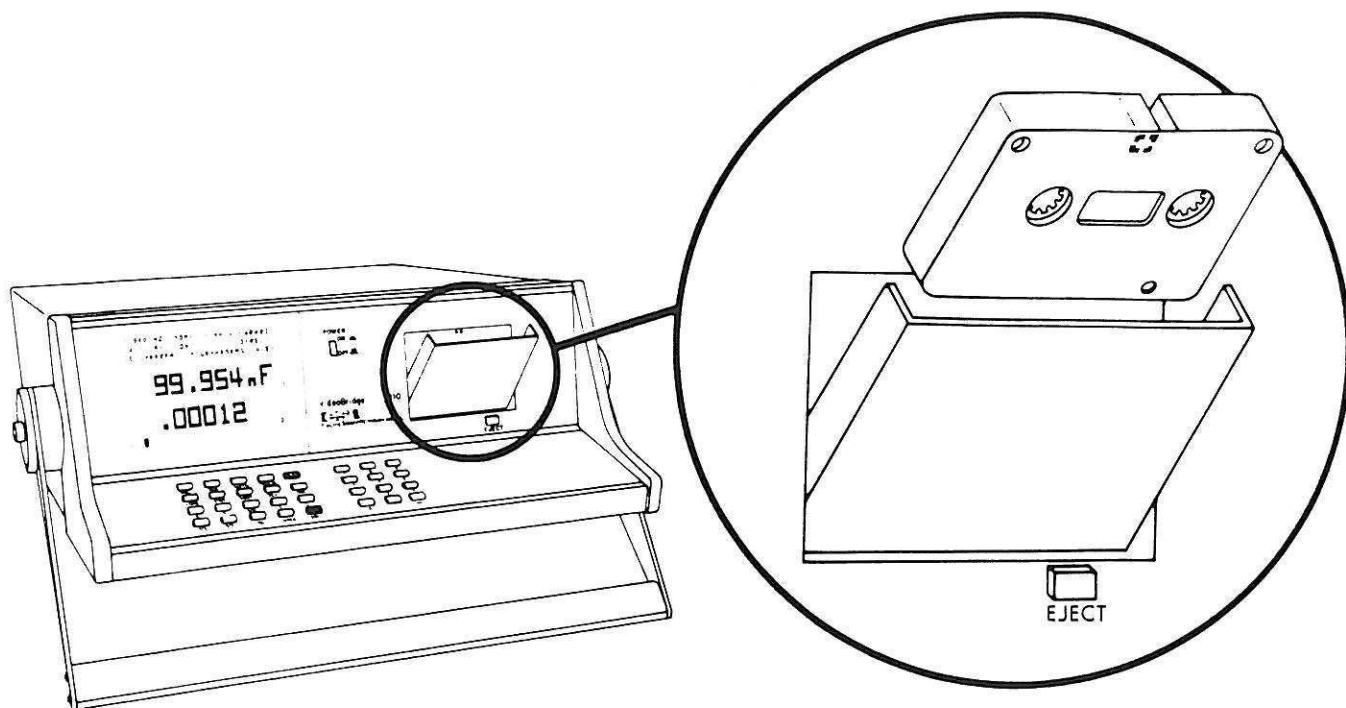

Figure 2-17. Cassette Tape Installation
The mini-cassette tape is installed in the 2110's cassette tape loader as shown in Figure 2-17. To install:
- STEP 2. Remove any cassette tape already in the loader and install the new tape (see Figure 2-17).